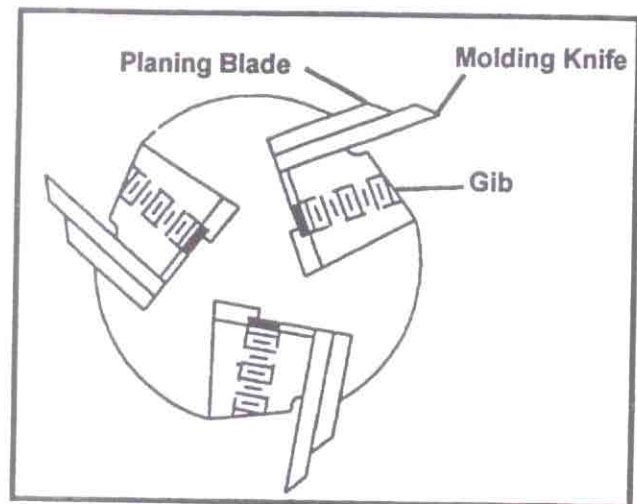

Fig. 10
- Remove lock bar. **Note:** With 2" wide and under molding cutters, the planing knives remain in place. (Fig. 10)